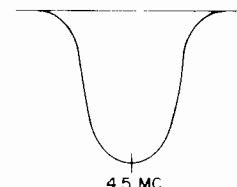

FIGURE 3
6. Connect the oscilloscope directly to TP4. Connect a 4.5 mc signal from the sweep generator and marker generator to TP2. Set the Contrast Control at minimum and adjust L8 (bottom of chassis) and L11 for maximum output at 4.5 mc. Repeat adjustment to obtain the curve of figure 3.